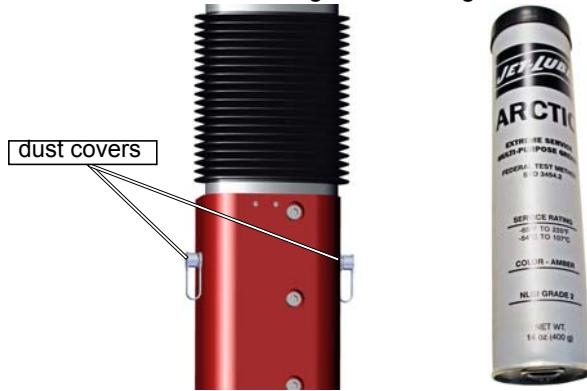

Figure 4-13
5. Wipe off excess grease from the two grease fittings and replace the two dust covers (Figure 4-13).